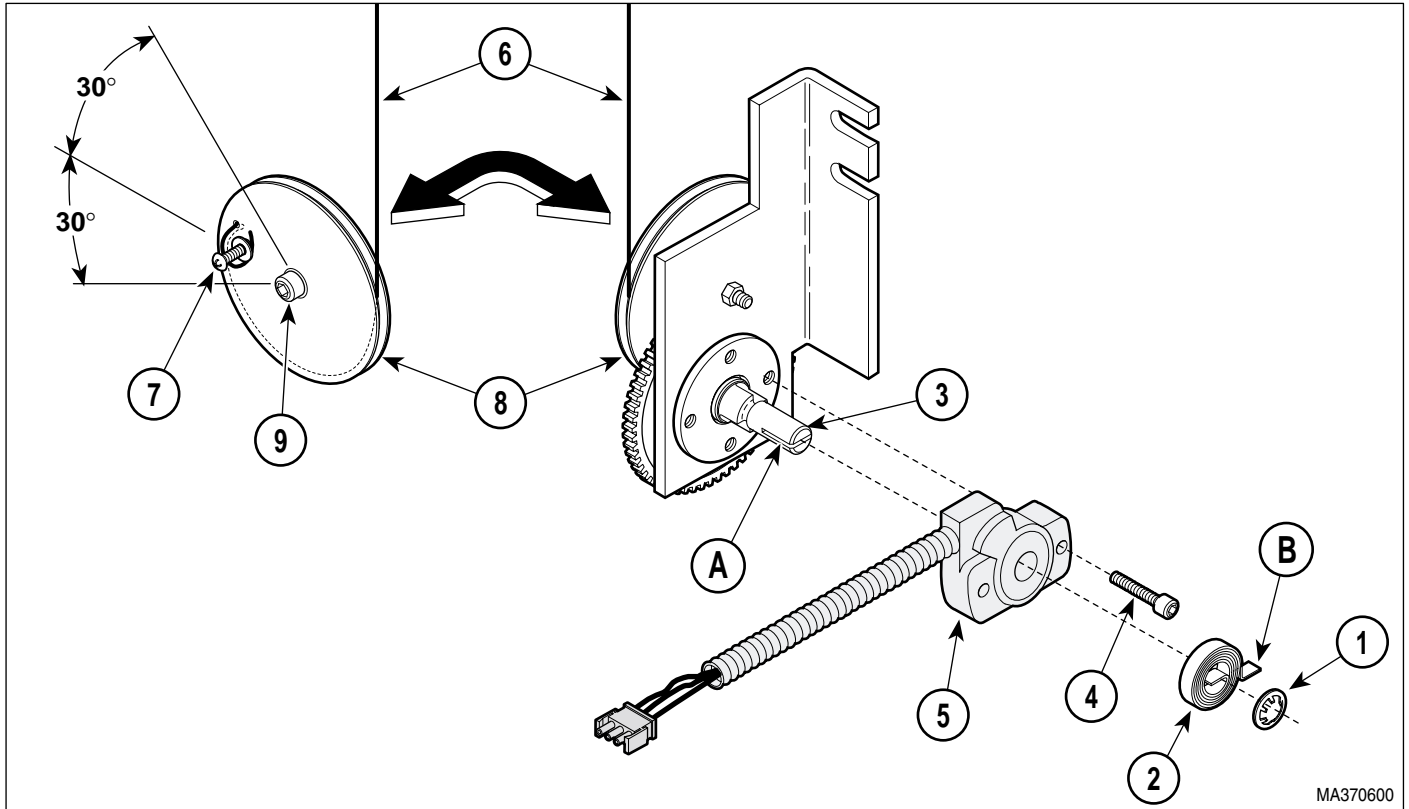

Figure 4-60. Base Position Sensor Removal / Installation
- (12) Remove circular push-on (1, Figure 4-60) and torsion spring (2) from gear shaft (3).
- (13) Remove two screws (4) and base position sensor (5) from gear shaft (3).
- (3) Set multimeter to VDC setting. Then set the voltage range of the multimeter to the 0-20 VDC range.
- (4) Coat threads of two screws (4, Figure 4-60) with removable threadlocking adhesive (Loctite 242).
- (5) Install base position sensor (5) on gear shaft (3) and secure with two screws (4).
- (6) Install torsion spring (2) in slot (A) on end of gear shaft (3) while pushing tab (B) of torsion spring under head of screw (4).
- (7) Secure torsion spring (2) on gear shaft (3) with circular push-on (1).
- (8) If installing new cable (6), loosen screw (7) and remove old cable. Then, wrap one end of new cable (6) around screw (7) 1-1/2 times and secure in this place by tightening screw. Cut off any excess cable (6).
- (10) Rotate pulley (8, Figure 4-60) in a clockwise direction until resistance is met. Then, check position of screw (7); it should be $\pm 30^\circ$ of the position shown on illustration. If not, remove screw (9), remove and rotate pulley (8) to correct orientation, and then reinstall with screw (9).